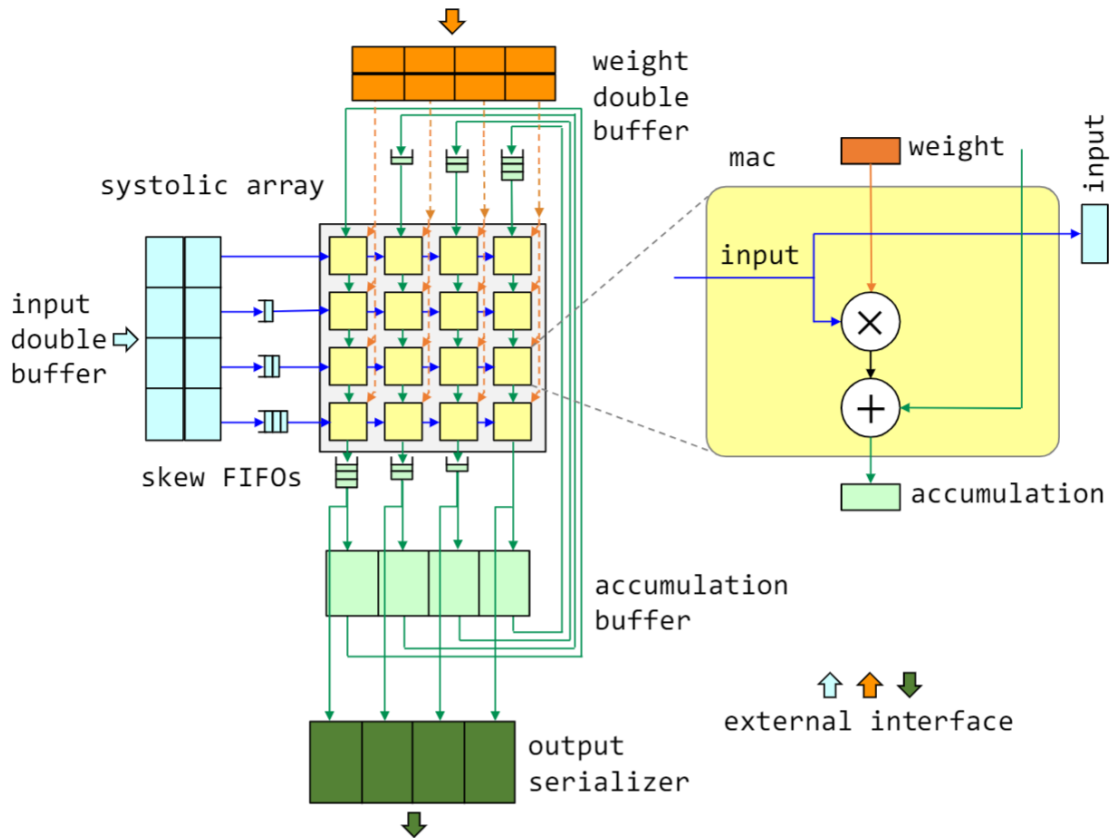

Figure 2: CNN accelerator.
- **Next, implement the processing element and the systolic array.** The processing element is combinational unlike the one in homework 3, meaning the input, weight and output registers are instantiated **outside** the processing element in the systolic array core. The systolic array core reads from the weight double buffer and writes to the weight registers. (Note: In this homework the weights are **not** skewed. You need to load the weights to weight registers properly so that they are ready for PEs to use.) It reads inputs from the input double buffer and feeds into the skew FIFOs, which feed the PE array. (Note: In your previous homework you had skew registers, but this homework you will use skew FIFOs, which are already created for you (see Figure 2). You will need to hook these up. It is important to remember that in this assignment when we talk about FIFOs, we are referring to skew FIFOs.) The outputs from the PE array are skewed and written to the accumulation buffer as before, and they are read out and fed back into the PE array from the top to accumulate across FX, FY and IC dimensions. Before implementing, answer the questions below. The answers should be in terms of configuration parameters (tiling, filter size, etc.) with some absolute numbers.
- In this homework the two banks of the output buffer are separated (see Figure 2). You will implement the bank used for accumulation in `SystolicArrayCore`. You will not need to implement the bank that captures the output that is being sent out of the accelerator. This has been done for you. Make sure to write the outputs to the output double buffer in `SystolicArrayCore`.